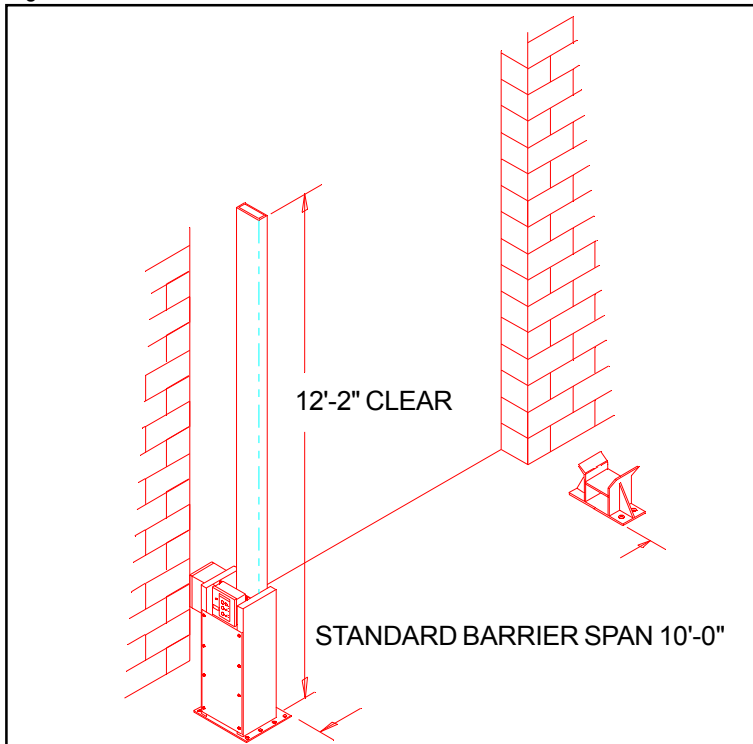

Figure 2 - Note: Consult factory for barrier spans other than 10'.
5. In order to determine B-2-B Barrier mounting location, position the barrier so that it is centered in door opening. Reference figure 2. The barrier may be positioned at any desired distance from the wall. Note that 14" wall clearance is required if pin should ever require removal. Check overhead clearance with barrier in raised position to ensure that the barrier arm will not interfere with the overhead door or any other overhead objects.